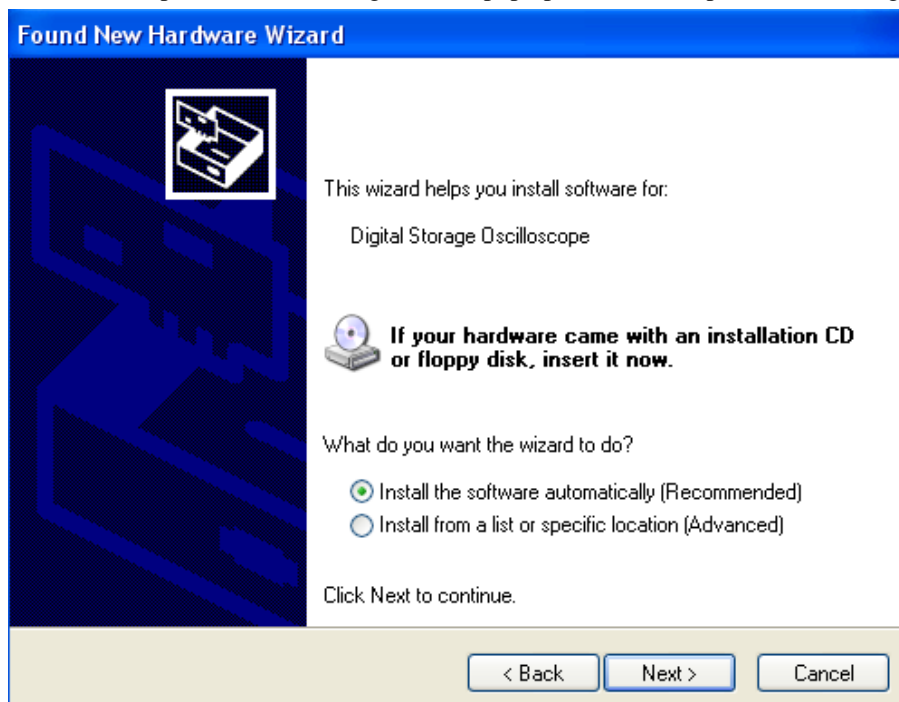
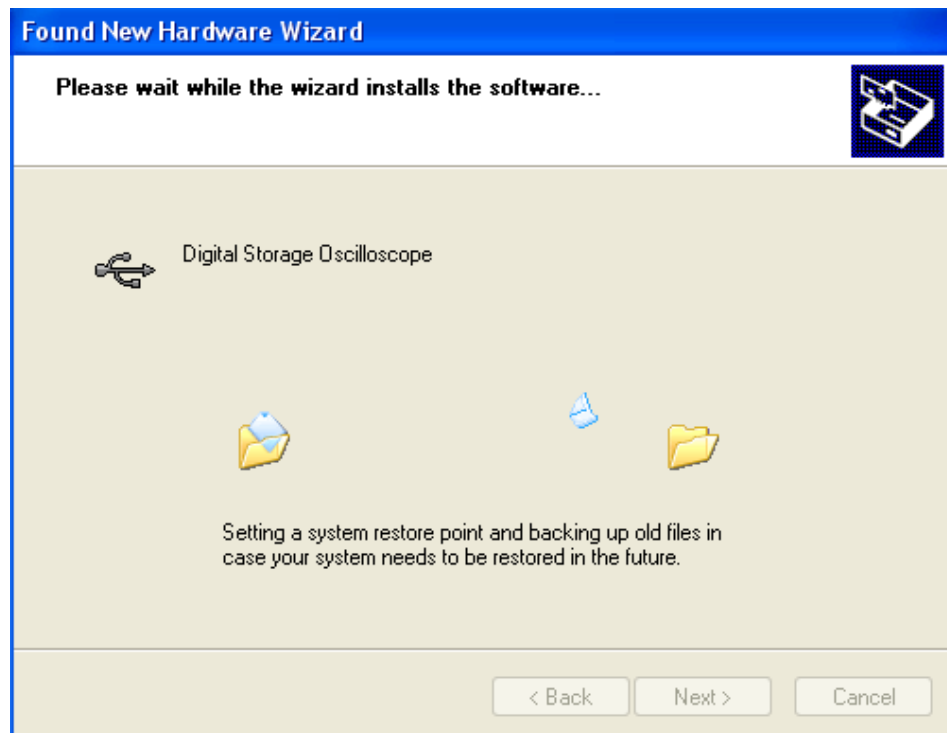
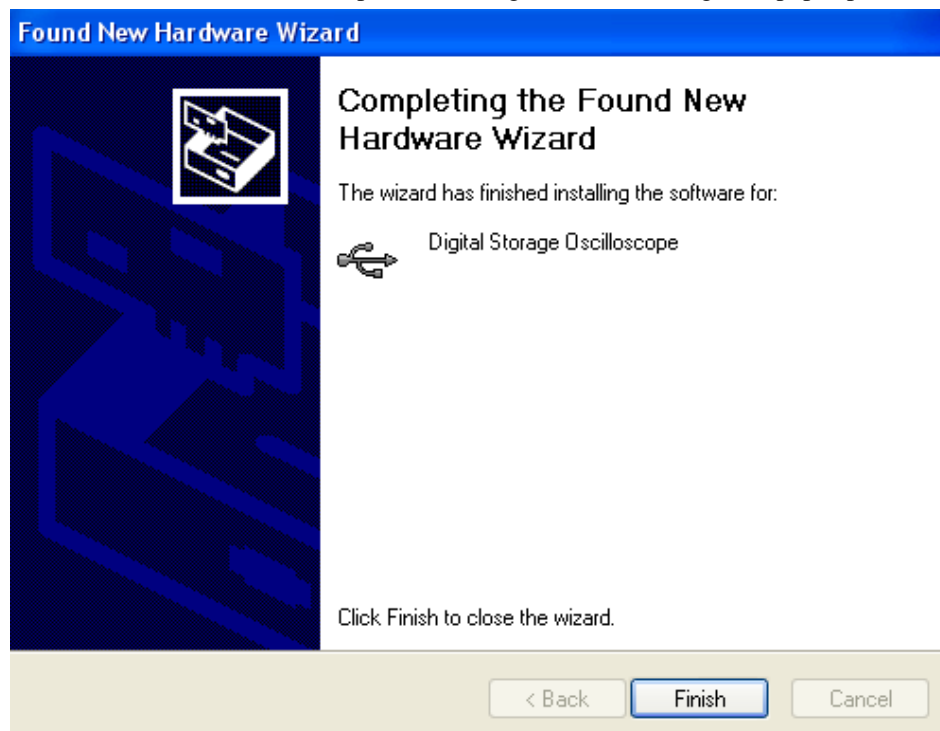

Fig 1-12
Fig 1-13
Fig 1-14
Then a "hardware update wizard" dialog box will pop up on the desktop, as shown in Fig 1-12.
3. In the new hardware wizard dialog box in Fig 1-12, select the “automatic software installation (recommended) (I) option, then click [NEXT (N)] to enter the automatic driver search and installation page, as shown in Fig 1-13.
4. As shown in Fig 1-13, the hardware installation wizard of your digital storage oscilloscope begins automatic searching and installing the USB driver for the oscilloscope communication and control software. When installation is complete the dialog box shown in Fig 1-14 pops up.
5. In Fig 1-14, click the [FINISH (E)] button. Your USB driver is now installed, and instant communication and control are enabled between the oscilloscope and the software. Please read “3.1 USB Interface Controls” in “Chapter 3 : Operation guide for the oscilloscope communication and control software” of this booklet prior to operation.